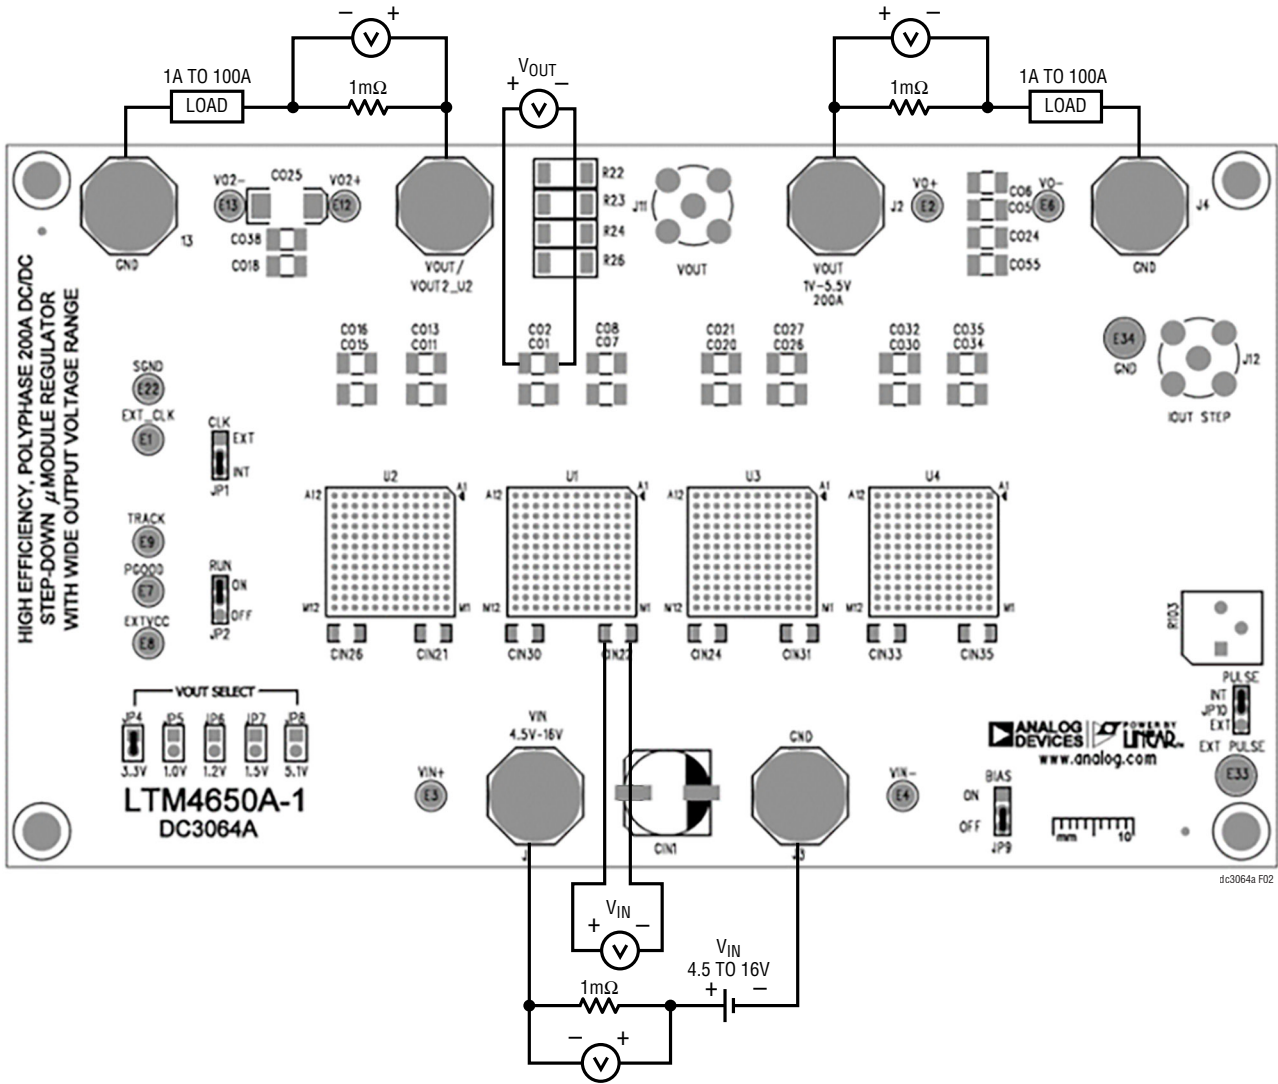

Figure 2. Proper Measurement Equipment Setup
Demonstration circuit 3064A is easy to set up to evaluate the performance of PolyPhase operation of the LTM4650AEY-1. Due to the high input/output current, user should select the proper input supply/load/cable which can sustain the full load operation. It's recommended to split load current evenly between J2/J4 and J13/J14. Please refer to Figure 2 for proper measurement setup and follow the procedure below.
- With power off, connect the input power supply, load and meters as shown in Figure 2. Preset the load to 0A and V_{IN} supply to 12V.